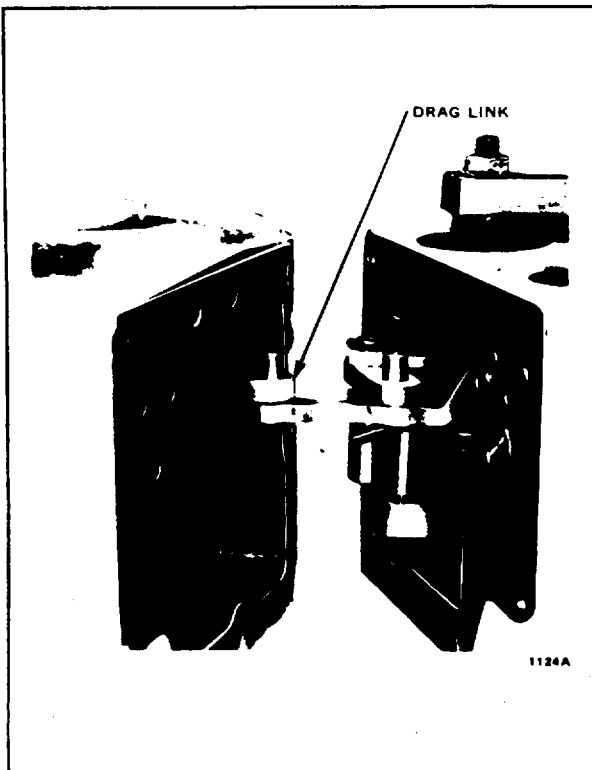

FIGURE 3. Drag link/Control link connector between original control and pump.
2. Remove the existing control from the pump by removing the nine hex head screws from the housing. Slip the pin on the control linkage out of the end of the drag link. See Figure 3.